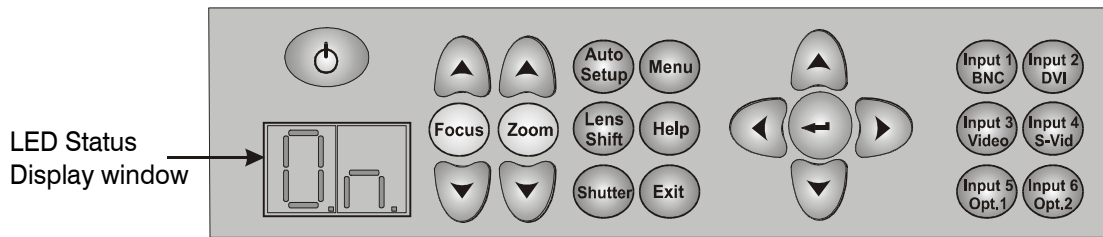

Figure 3-2 Built-in Keypad at Projector Rear
- **The Built-in keypad** (*Figure 3-2*) located at the rear of the projection head
To control the projector when signals from a remote cannot reach the projector, use the projector's built-in keypad (*Figure 3-2*). The 2 nearby Status windows provide feedback, indicating current status and activities of the projector, (refer to *Table 3.2*). Because the built-in keypad has fewer keys than on the remote keypad, certain projector functions are accessible only through the **Menu** system, rather than via a direct key press.